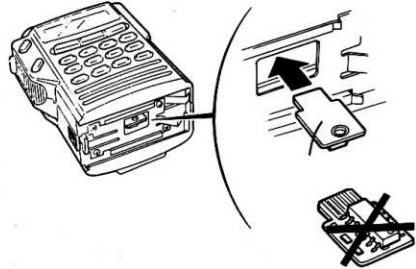

Figure 4-9
- c) Plug in the new memory unit (CMU161). The memory unit (CMU161) should be inserted straight and with the back facing up as shown in Figure 4-9.